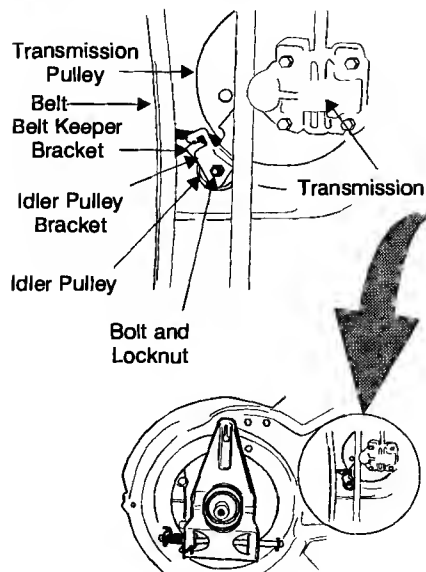

Figure 21
11. Slide the belt out from between the belt keeper bracket and the idler pulley. See figure 21.
18. Tighten the idler pulley bolt and locknut  $\frac{1}{2}$  turn using two  $\frac{7}{16}$ " wrenches. See figure 21.